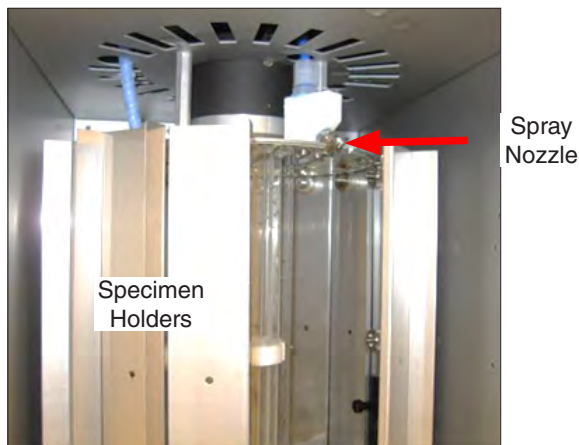
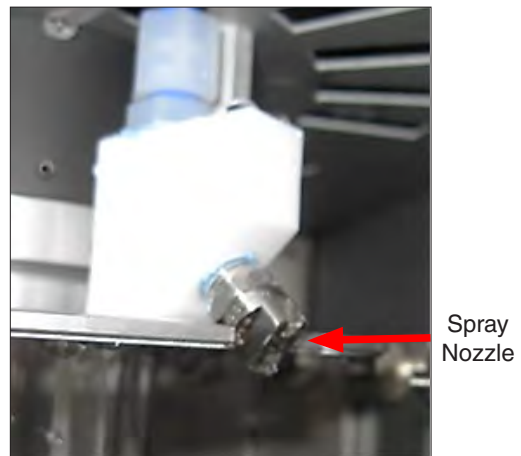

Figure 10.1a: Front spray nozzle location.
Figure 10.1b: Front spray nozzle detail.
- Two (2) water spray systems are optionally available for the Xe-2 tester.
- The Xe-2-HSE has one spray nozzle located near the top of the chamber (Figure 10.1a and Figure 10.1b).